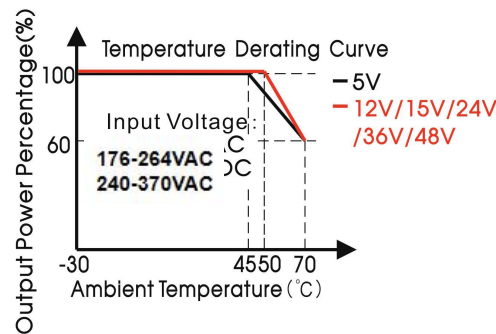

Fig. 2 EN200 Temperature Derating Curve
**Curve**" in the product technical manual. Excessive temperatures can shorten product lifespan or cause failure. Fig. 2 shows the EN200 "Temperature Derating Curve".